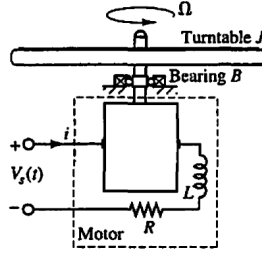

FIGURE 2. Full System Model
**Question 1.** The main system components include the panel, and the motor. The panel can be modeled as a mass rotating about its centroidal axis with inertia  $J$ . Include viscous damping  $b$ . The motor is a smaller system that converts an input voltage to rotational motion. The motor circuit should have the motor inductance  $L$  and resistance  $R$ . The rotational inertia  $J$  of the motor should be in parallel with the panel inertia. See Figure 2.